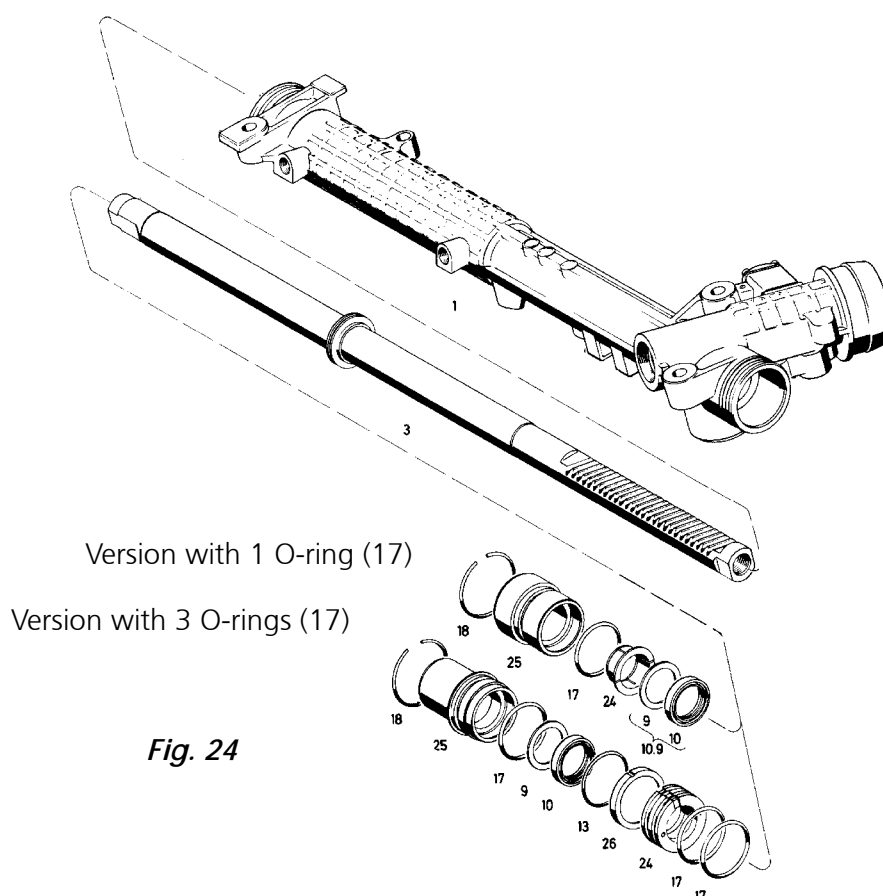

Fig. 24
Using tool [9], slide the rack (3) into the housing (1) without damaging any sealing elements (**Fig. 24**).
2.2 Fitting the piston rod guide (25)
Using tool [8], fit the bearing bush (24), the washer (9) and the seal (10) into the piston rod guide (25) (**Fig. 24**).